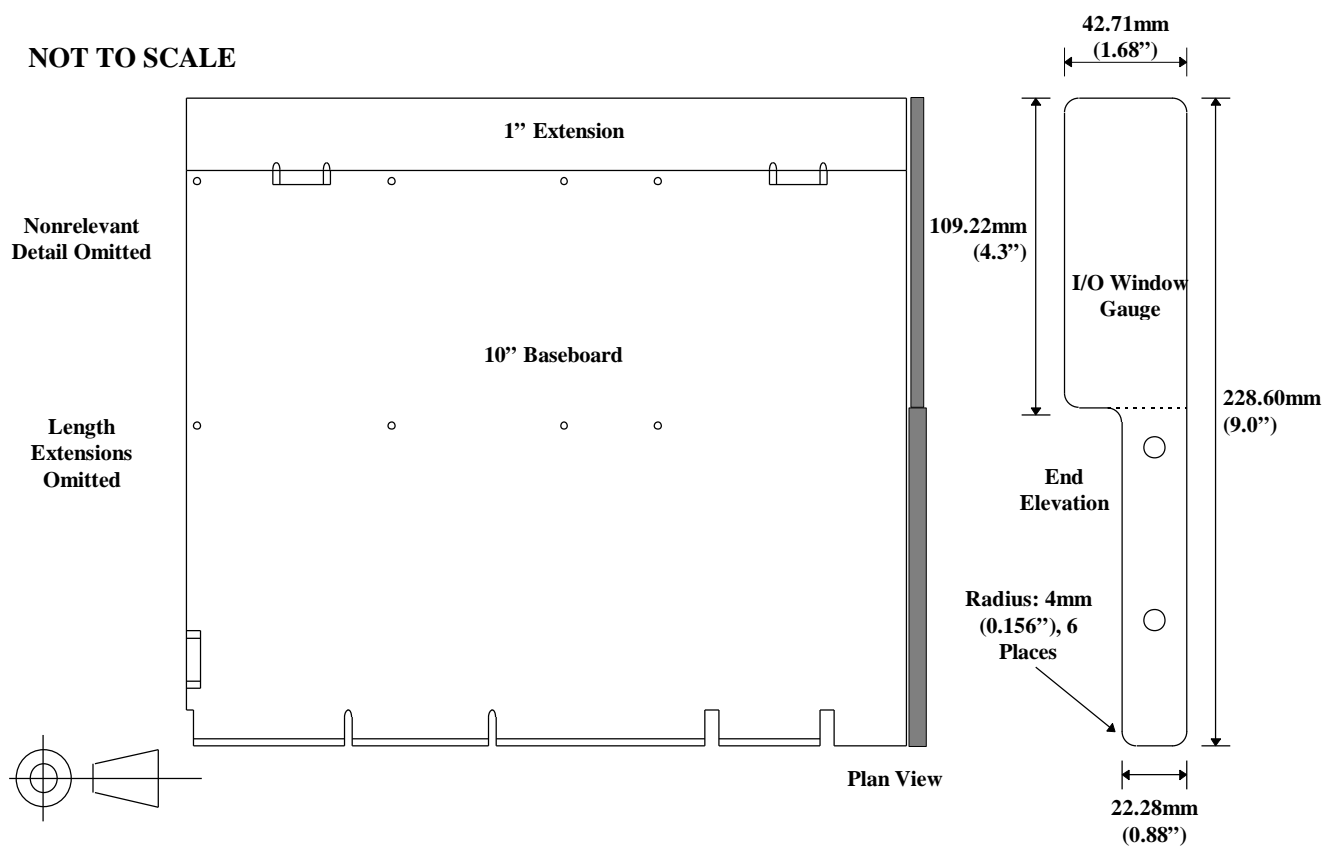

Figure 5: I/O Window Gauge Detail
- The NLX specification details the single-high and double-high section height dimensions as 22.50mm (0.886") and 42.93mm (1.69"), respectively. The window gauge dimensions are 0.0085" smaller (nominally). Figure 5 shows the nominal dimensions of the gauge.